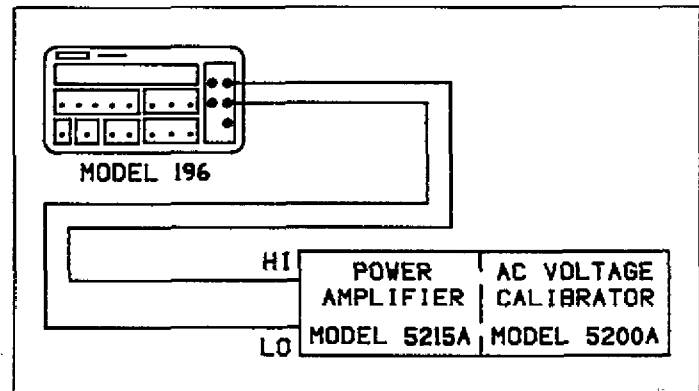

Figure 6-6. TRMS AC Volts Calibration Configuration
2. Connect the AC calibrator as shown in Figure 6-6.
- A. With the ACV function, autorange and 5½d resolution selected, connect the AC calibrator to the instrument as shown in Figure 6-6.
- B. With the ACV function and 5½d resolution selected, connect the AC calibrator to the instrument as shown in Figure 6-6.